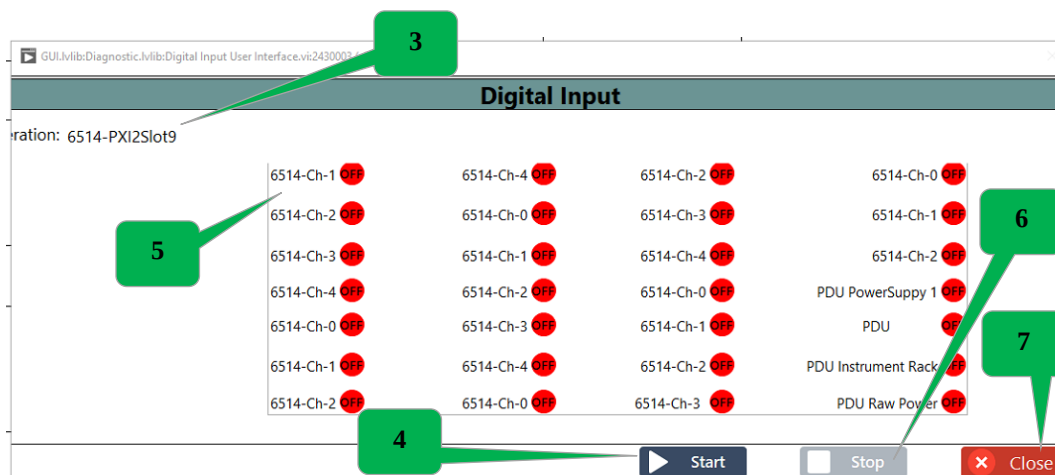

Figure 48: Digital Input
- 2) Click the Digital Input Diagnostic Button and Refer Fig 48.